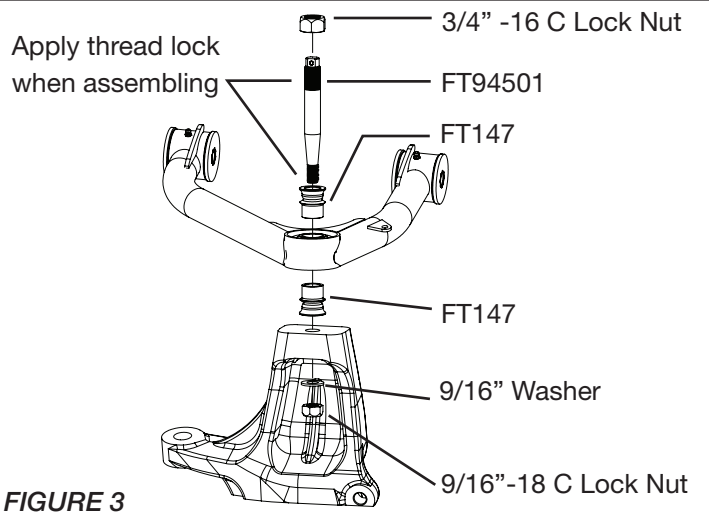

**FIGURE 2**
6. Install all these components in the control arm barrels. **SEE FIGURE 2**